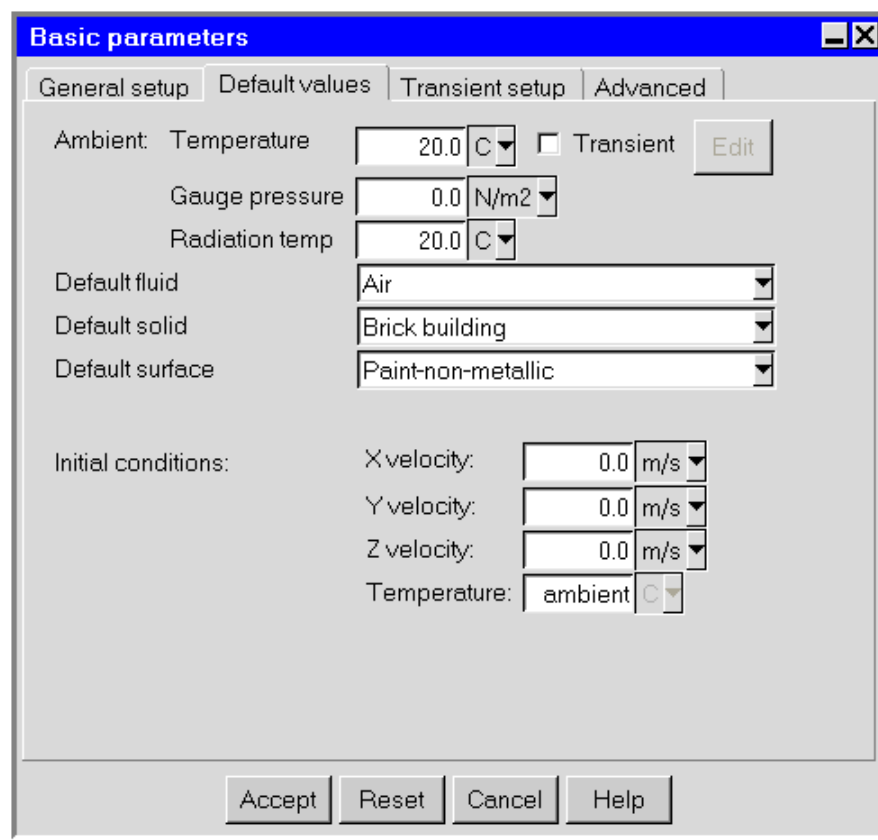

Figure 20.1.5: The Basic parameters Panel (Default values tab)
4. Specify an ambient value of temperature by entering the ambient **Temperature** under **Ambient values** in the **Default values** tab of the **Basic parameters** panel (Figure 20.1.5).
6. Specify the initial conditions for the fluid in your model in the **Default values** tab of the **Basic parameters** panel (Figure 20.1.5). For a transient simulation, this corresponds to the initial physical state of the fluid. See Section 6.4.8 for more details on setting initial conditions.